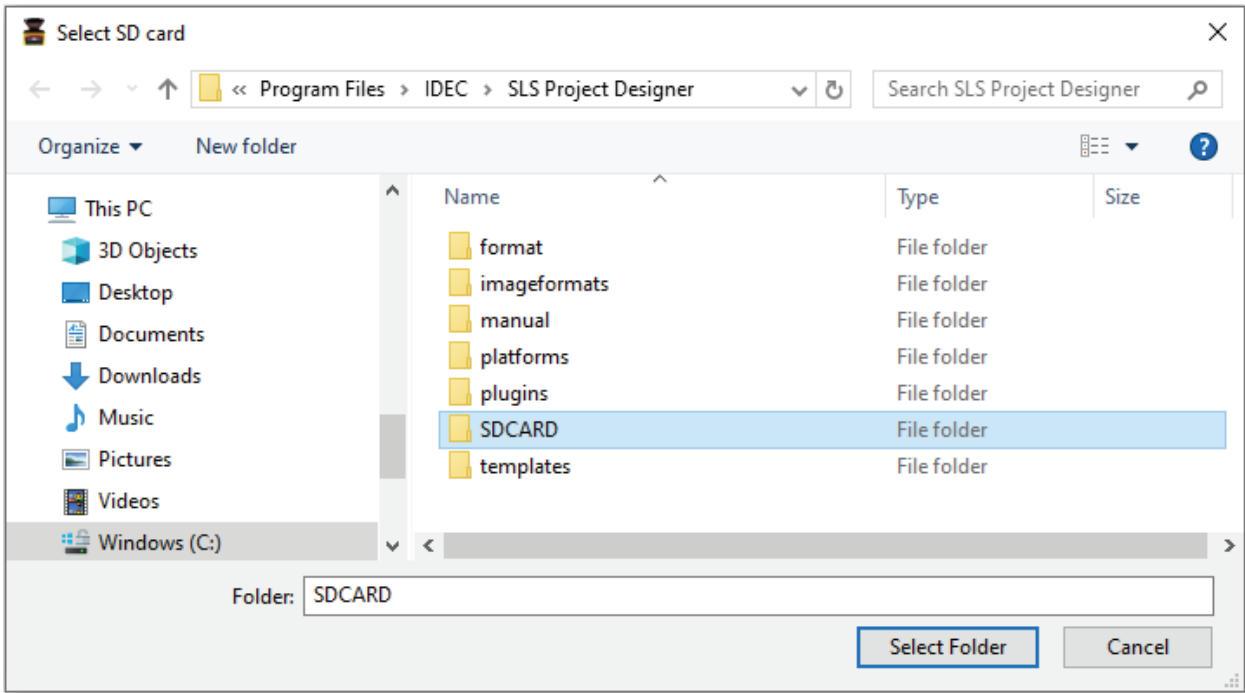

Figure 7-60 SD Card selection screen
- f) Verify that SD card is inserted into the PC slot and click “Save” button. Save dialog box as shown in Figure 7-60 will appear.